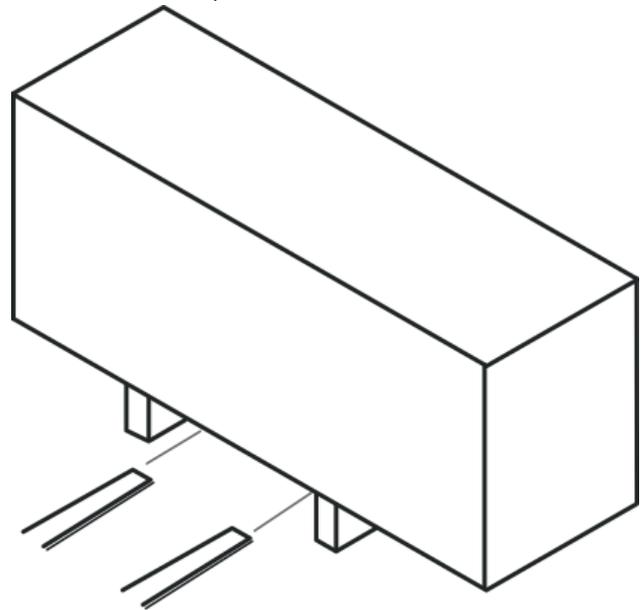

Fig. 28 Transport by forklift
1. Move the forks of the forklift between the crosspieces of the package in accordance with Fig. 28.